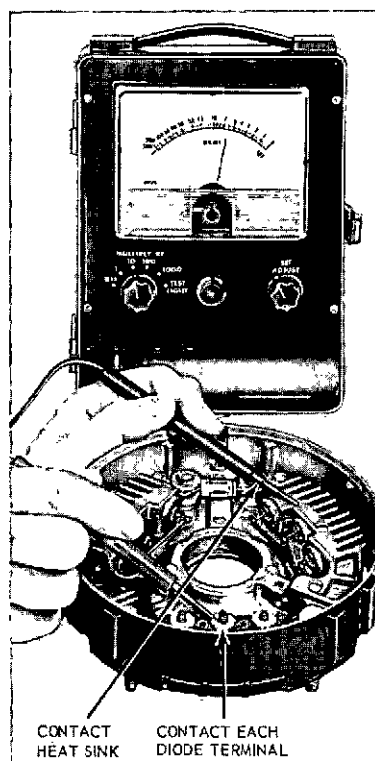

Fig. 14 — Diode Test — Leece-Neville Alternators
**TEST CONNECTIONS AND PROCEDURE – LEECE-NEVILLE ALTERNATORS** – The test connections are shown in Fig. 14. To test the negative diodes contact one probe to the heat sink and the other probe to each diode terminal. Reverse the probes and repeat the test. Test the positive diodes in the same way.